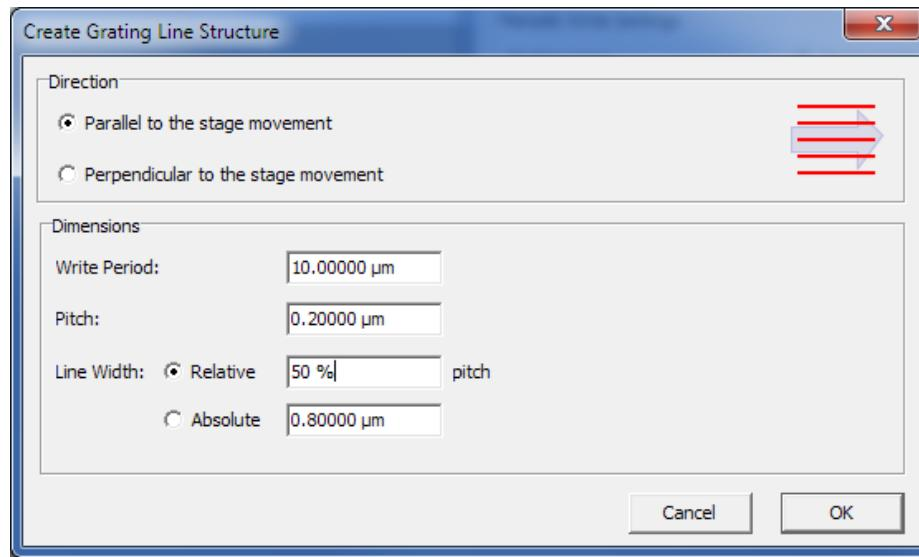

Figure 5-30: Create Grating Line Structure dialog with selection **Parallel to the stage movement**.
- Select **Parallel to the stage movement** as direction (⇒ Figure 5-30 on page 5-50).